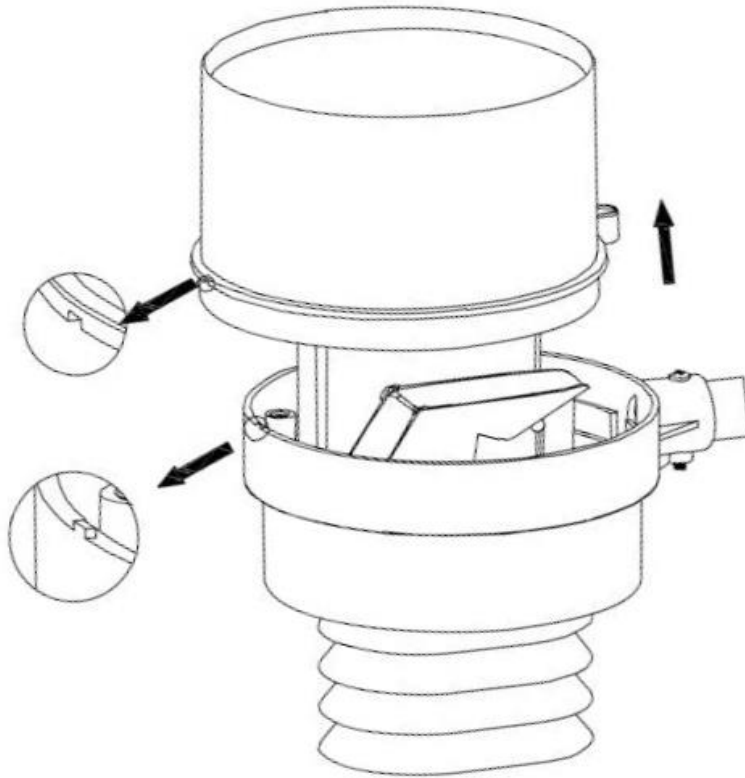

Figure 11
2. Pull the rain gauge funnel from the assembly as shown in Figure 11.